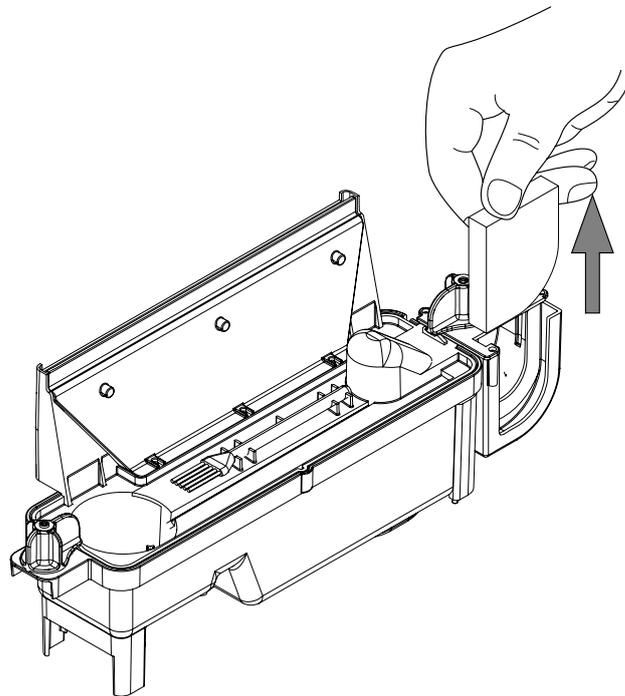

Fig.11
3. Gently slide the air filter upwards out of its plastic holder. (See Fig.11)